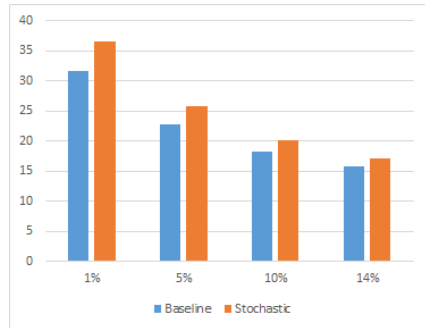

Figure 8. Low-Pass PSNR Comparison
- c. Do we need to keep the data range of the PSNR results the same? The negative value makes the graph a little bit weird. (figure 8,9)